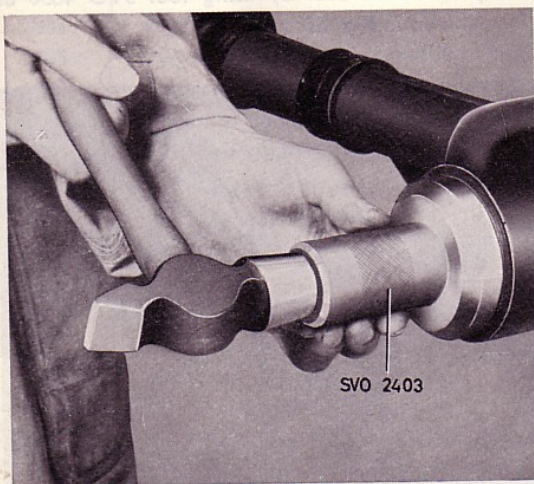

Fig. 7. Fitting oil seal
3. Fit the new oil seal with tool SVO 2403, see Fig. 7.